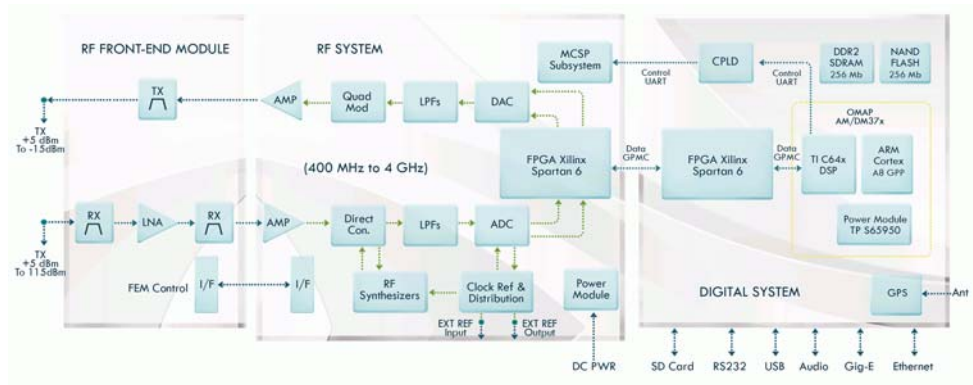

Figure 2 DTP4700 hardware components block diagram
A block diagram illustrating the main DTP4700 hardware components is shown overleaf in *Figure 2*.
The Spectra DTP4700 hardware platform is based on DataSoft's Thunder SDR System and consists of a highly-capable baseband Digital System assembly coupled with a wideband RF Transceiver System assembly and a Front-End Module (FEM) assembly as shown in *Figure 2* on page 6. The Digital System includes the Texas Instruments Open Media Applications Platform (OMAP) processor running an open-source Linux operating system. Numerous external interfaces provide software development and debug capabilities (GPP/DSP/FPGA). The Digital System's Waveform (WF) FPGA uses a Xilinx Spartan-6 FPGA device. The RF Transceiver System is a full-duplex design with independent RX and TX controls making it suitable for both FDD and TDD applications. The RF Transceiver design contains an RF Chain Control (RFCC) FPGA that also uses a Xilinx Spartan-6 FPGA device.